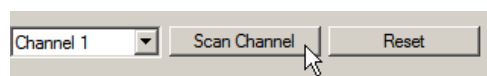

Figure 31: LINX Configurator software, scan DALI Channel.
2. Select the DALI channel and click on the **Scan Channel** button shown in Figure 31.